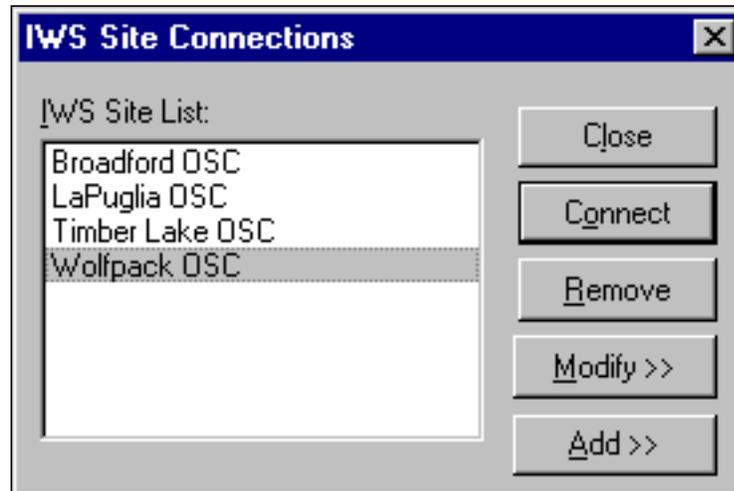

FIGURE 5. WS Site Connections dialog box
1. From the menu bar on the standalone RAMP, select File and Connections to display the IWS Site Connections dialog box. (See Figure 5.)
1. From the RAMP menu bar, select File and Connections to display the IWS Site Connections dialog box. (See Figure 5 on page 22.)